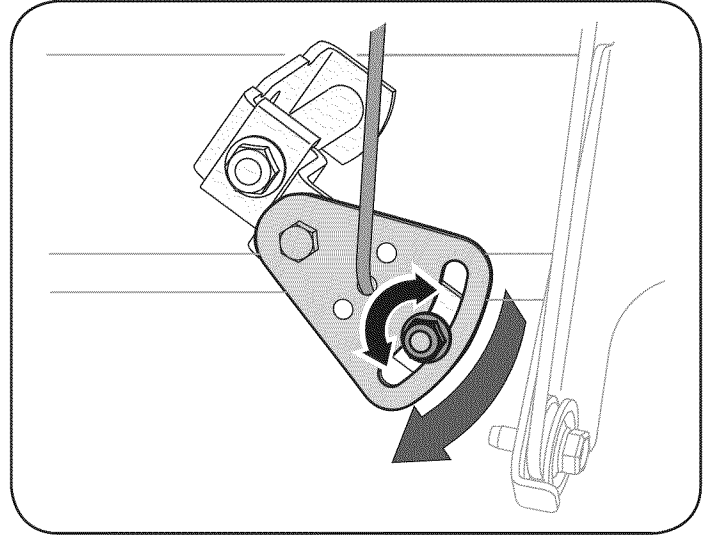

Figure 22
2. Loosen the hex nut on the shift cable index bracket. See Figure 22.